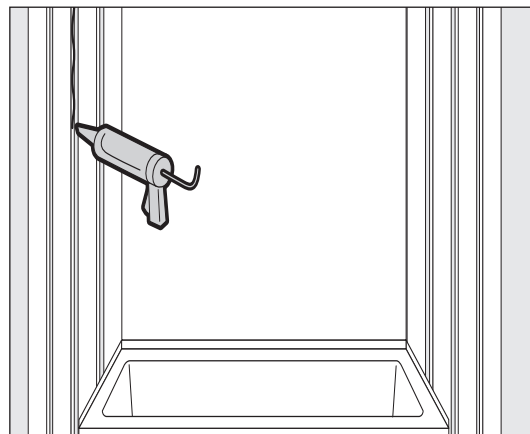

FIGURE 8. Apply adhesive.
- Apply adhesive to studs for faucet side panel and place side panel. (Fig. 8)